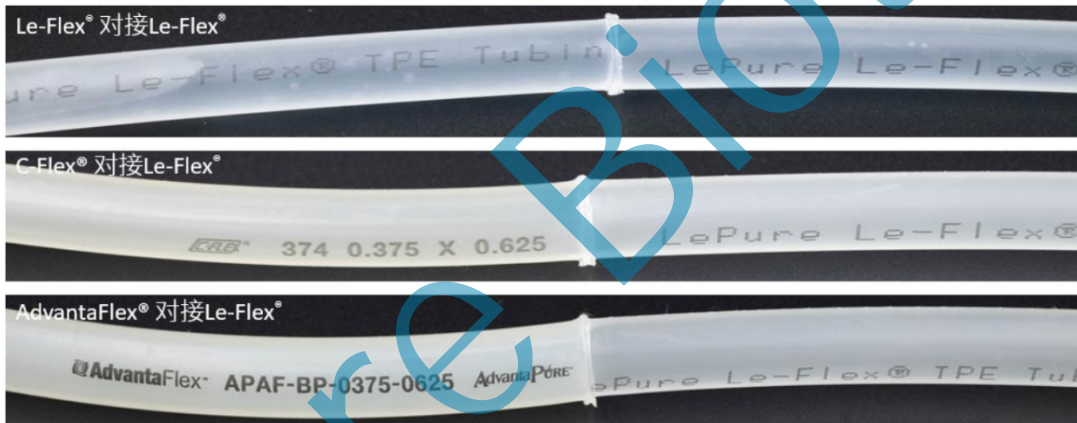

Figure 5. Thermal Weldability of Le-Flex®TPE Thermoplastic Tube with Other Brands
(1) Visual inspection of the sterile welding effect. If the appearance of the flange ring formed by welding is not abnormal, no bubbles or other obvious defects, it is considered qualified, as shown in Figure 5.
(2) Welded pipeline gas tightness test. Use the pressure calibrator to give the welding line (length 30cm) 0.12 ± 0.01 MPa of air pressure, steady pressure for 15s, and then record the pressure drop after 30s, the pressure drop is less than 5mbar that is considered qualified.
(3) welding pipe burst pressure test. The use of water pressure burst tester for welding pipeline bursting, test sample length of 30cm, heat welding in the middle, one end of the heat seal, the other end